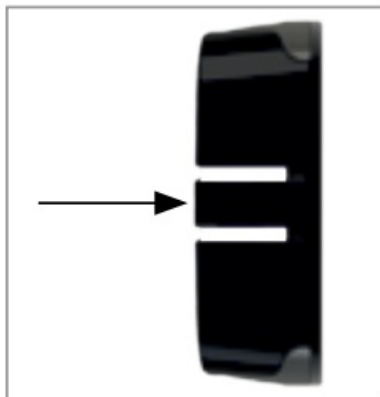

Figure 21
2. Long press the iWOC Trio center button to turn the system off (Figure 21).